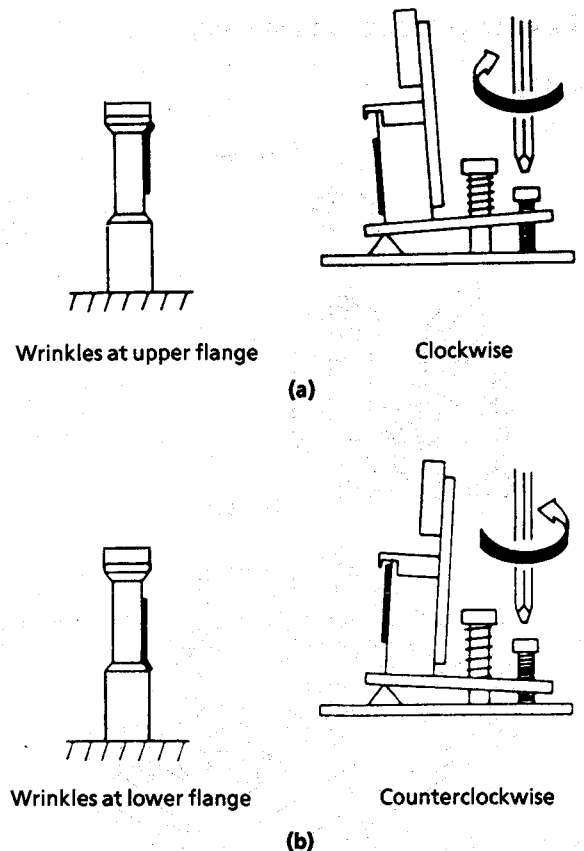

Figure 4-35.
- 1) Wrinkles at the upper flange : Turn the above adjusting screw clockwise, as shown in Figure 4-35 (a).
- 2) Wrinkles at the lower flange : Turn the above adjusting screw counterclockwise, as shown in Figure 4-35 (b).